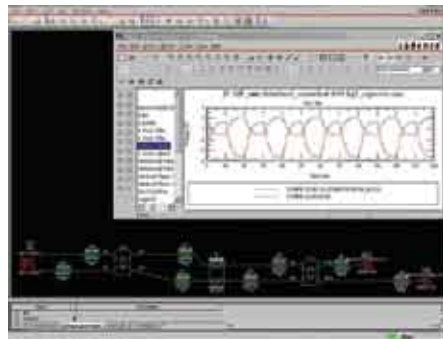

Figure 3: Virtual System Interconnect Models
An integrated graphical and topological interconnect modeling and simulation capability provides the ability to create and explore the signal integrity (SI) performance of proposed system-level connectivity. Embedded simulation capability provides time and frequency domain interconnect simulation, including industry-standard S-Parameter models. A full 3D quasi-static field solver further provides the extraction and creation of detailed, accurate geometric IBIS, RLGC or S-Parameter models of complex 3D interconnect structures. (See Figure 3.)